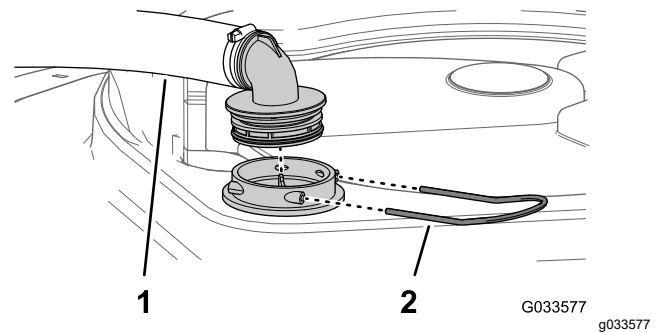

Figure 27
2. At the top of the sprayer tank, remove the retainer that secures the hose fitting attached to the large hose from the filter housing (Figure 27).
3. Remove the hose and hose fitting from the filter housing (Figure 27).